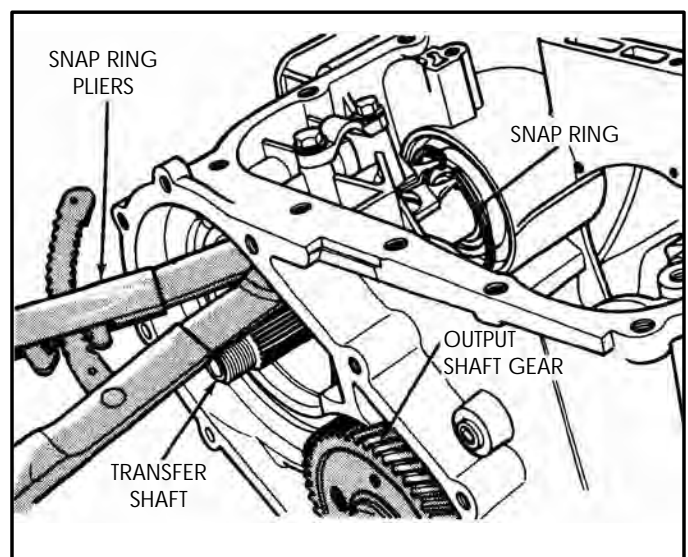

Figure 125
10. Remove the transfer shaft bearing retainer snap ring using the snap ring pliers, as shown in Figure 125.